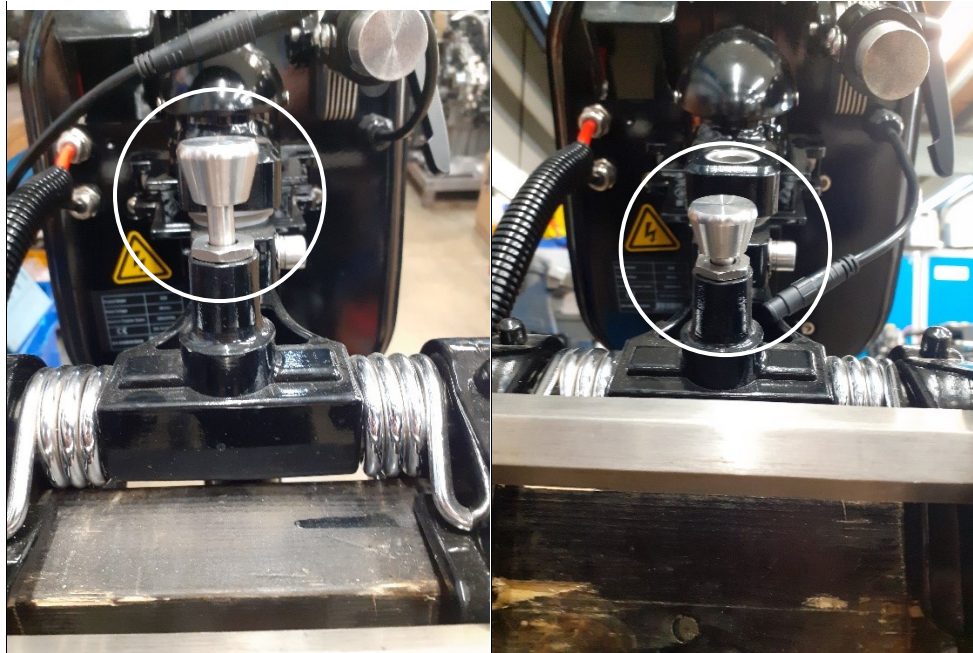

Figure 34: Outboard release lever (Left is unlocked, right is locked)
- Lift and tilt the electric outboard up. Lift and tilt the outboard until the lift latch engages and this will hold the leg in the raised position. (**Figure 34**)
- Tilt the leg slightly up and lift the release lever up (circled, **Figure 34**). Slowly, tilt the engine down and release the lever.